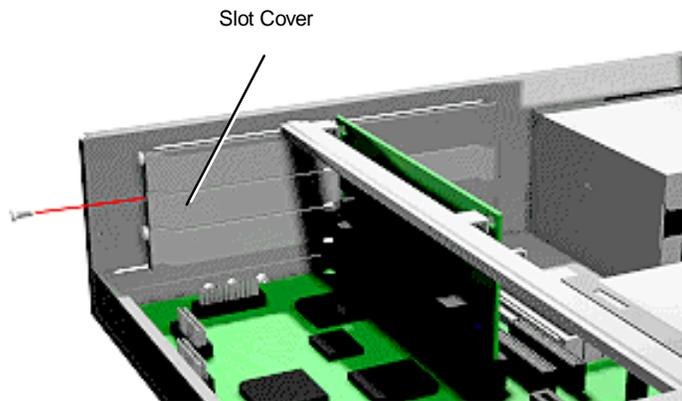

Figure 3-4 *Removing a Slot Cover*
4. Remove the screw securing an expansion slot cover and remove the cover (see Figure 3-4).